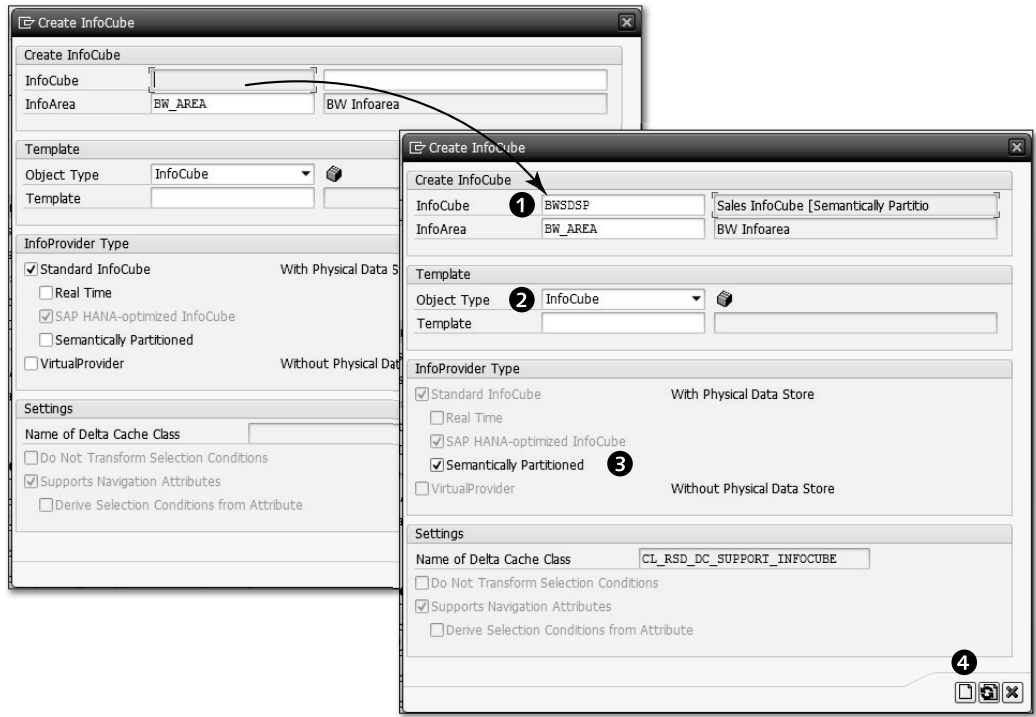
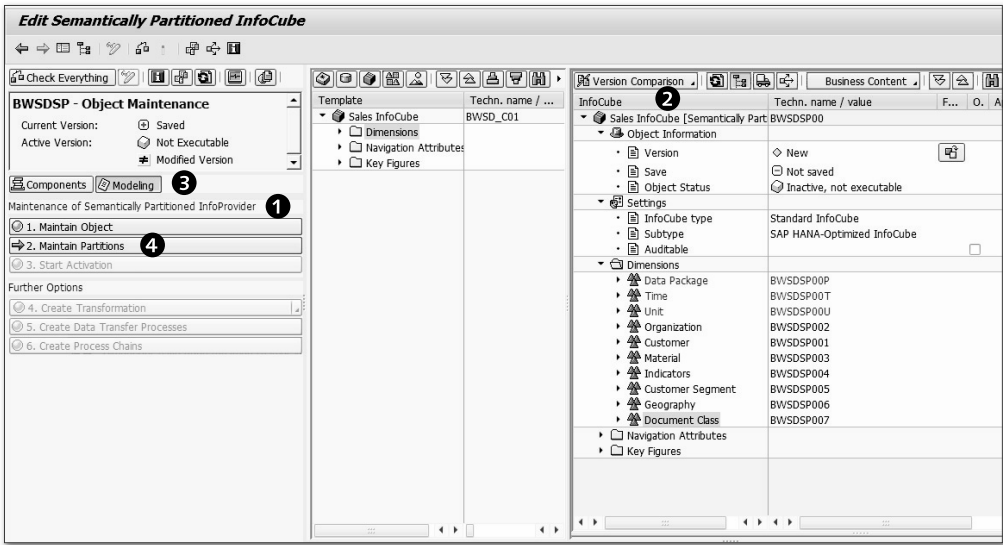
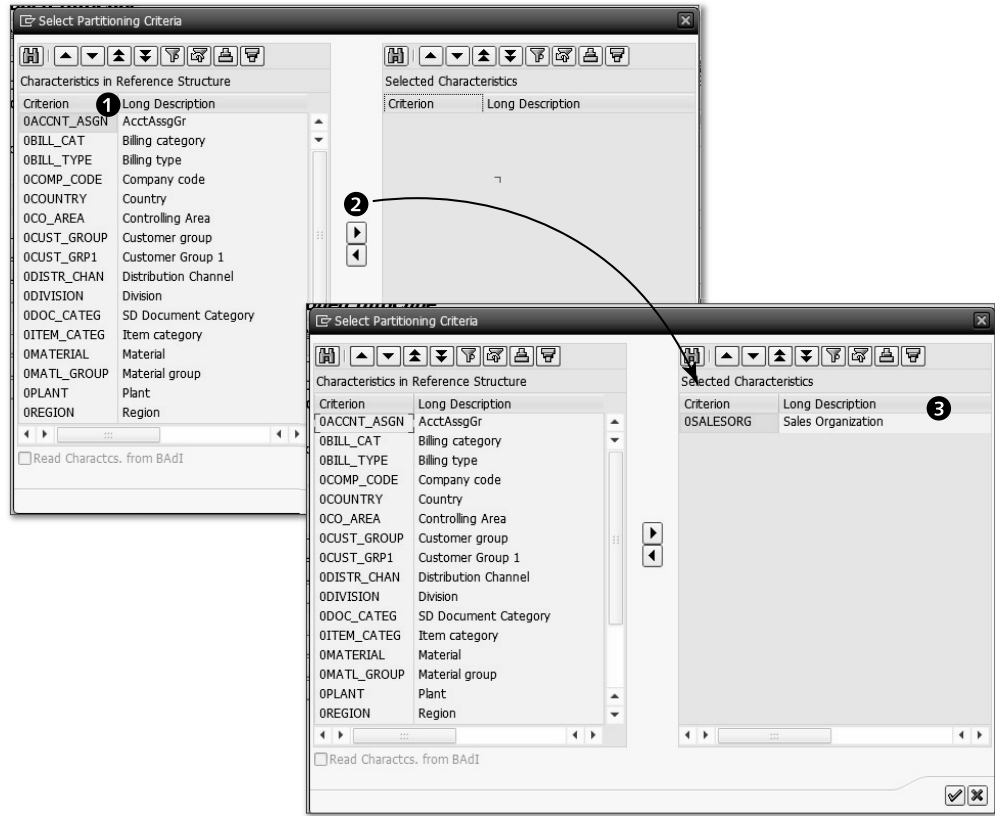

Figure 6.39 Creating an SPO: Part 2
Figure 6.40 Editing an SPO
Figure 6.41 Partitioning Criteria
Select the InfoArea under which you want to create your SPO ❷. From the context menu, select CREATE INFOCUBE ❸. The CREATE INFOCUBE screen appears, as shown in Figure 6.39.
Enter the technical name and description of the SPO (❶ of Figure 6.39). In our example, the SPO's technical name is "BWSDSP", and its description is "Sales InfoCube [Semantically Partitioned]". You can also use an existing InfoCube as a template to create a new SPO by entering the name of the existing InfoCube in the TEMPLATE field. In our example, InfoCube "BWSD_C01" is used as a template ❹.
Because this is a semantically partitioned InfoCube, select the SEMANTICALLY PARTITIONED property, as shown in ❸ of Figure 6.39. Click on the CREATE icon ❻. This takes you to the screen where you define the reference data model for the SPO (Figure 6.40).
In the left panel shown in ❶ of Figure 6.40, there are six steps to define and configure an SPO:
The right side of the screen, as shown in ❷ of Figure 6.40, displays the definition of InfoCube BWSD_C01, which is taken as the template. The system first creates the reference structure using InfoCube BWSD_C01 as the template. The system
names this reference structure BWSDSP00 and refers to it when a new partition for an SPO is designed. All of the dimensions, navigational attributes, and key figures of BWSD_C01 are available here. As shown in ❸ of Figure 6.40, the MODELING section is selected by default. The COMPONENT section displays the included components of the SPO. Click on MAINTAIN PARTITIONS ❹ to open the SELECT PARTITIONING CRITERIA screen, as shown in Figure 6.41.
All of the characteristics of reference structure BWSDSP00 are displayed here (❶ of Figure 6.41). Select characteristics from the left-hand side that should be used to partition the data semantically; for our example, we use characteristic OSALESORG (Sales Organization). Select OSALESORG, and click on the TRANSFER icon ❷. Characteristic OSALESORG is now available under SELECTED CHARACTERISTICS ❸. Click on the OK icon ❹ to continue with the definition of the SPO. This brings